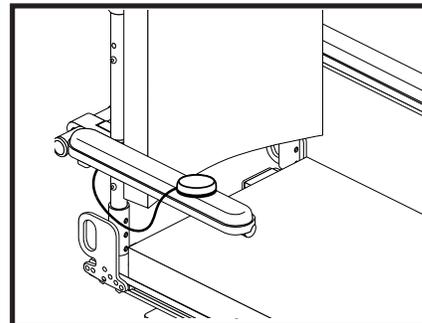

Figure 7. Single Switch Operation
1. To tilt backward, push the single switch. See figure 7.